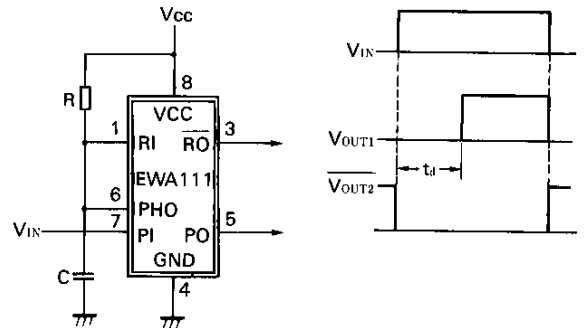

Fig. 14 Delay circuit ②
12. Delay circuit ②
Figure 14 shows a circuit for obtaining a inphase delay signal $[V_{OUT1}]$ for an input signal. The delay time, t_d , can be set free with resistor R and capacitance C. Calculate it using formula (11).